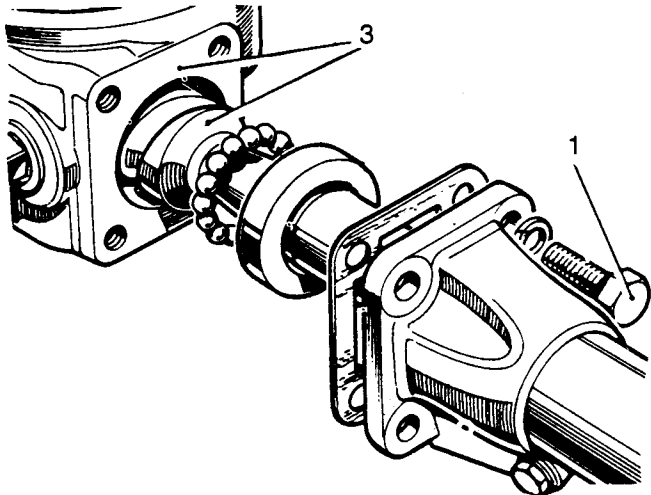

Fig L5.7
(9) Refer to Fig L5.7. Refit the box and inner column (3) complete to the outer column.
(10) With the outer column held in a vice, replace the fixings (1) securing the steering box.